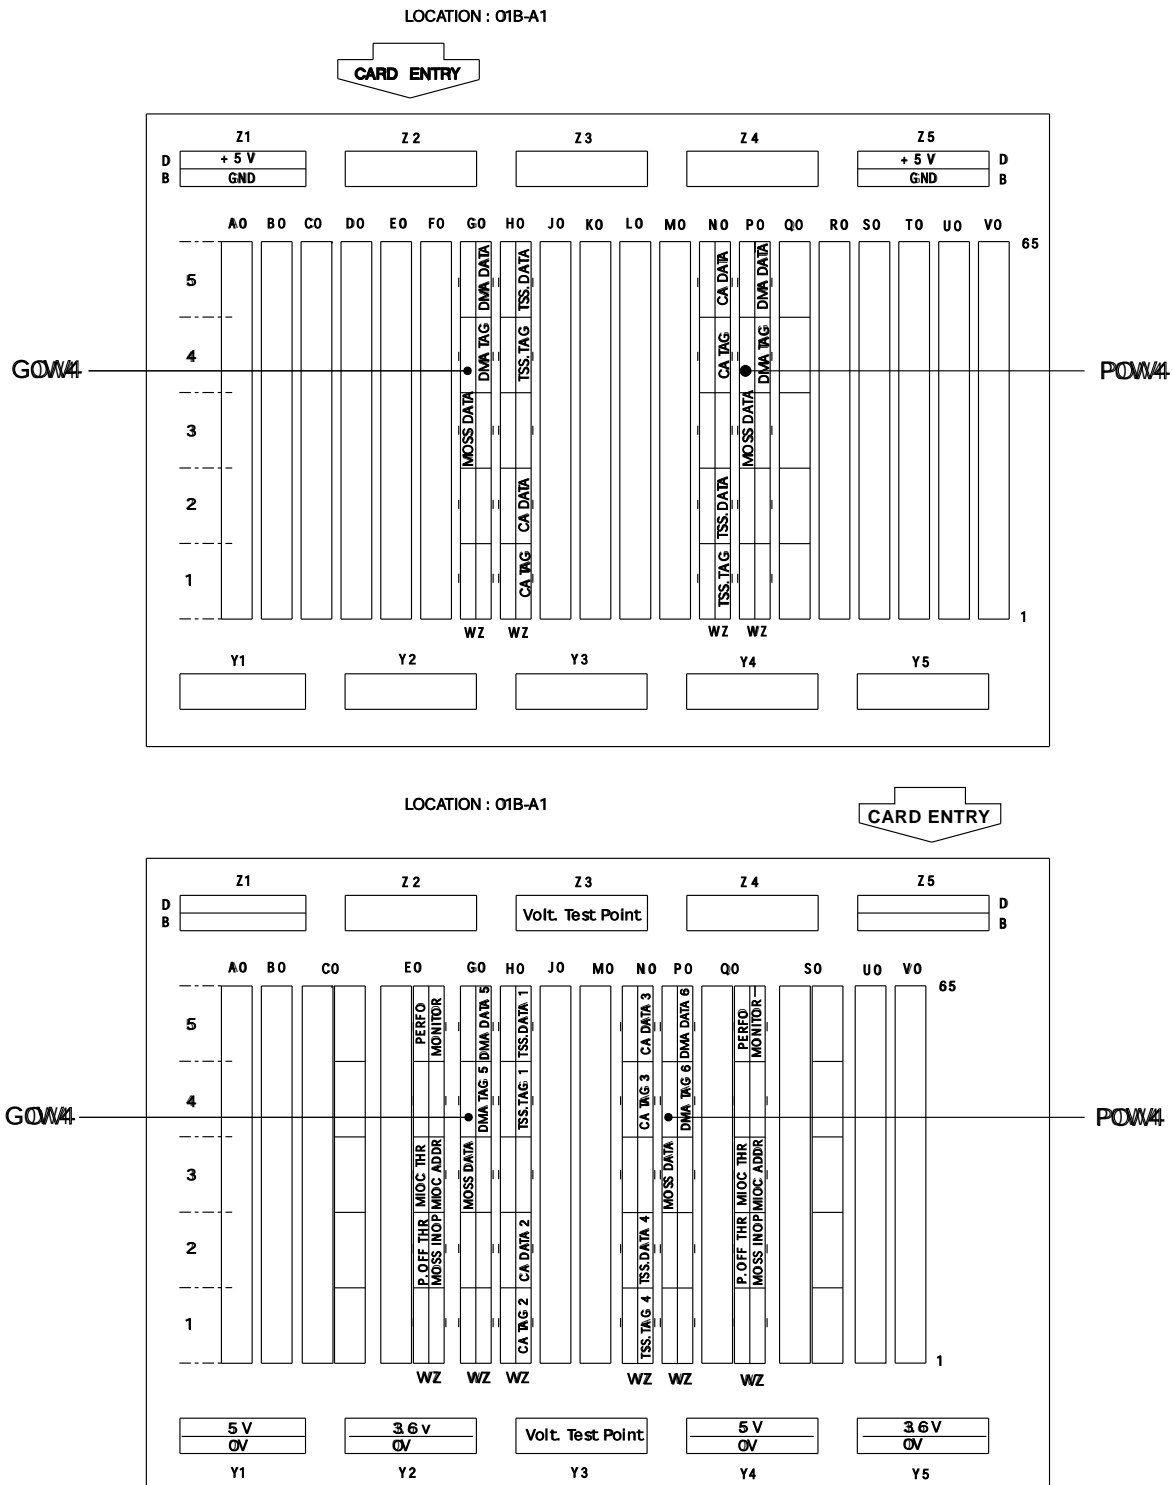

Figure 4-39. SACU Boards for 3745 Model 21A or 41A (Top) 31A or 61A (Bottom)
- Step 10. ____ Using the tool PN 71F9877 remove the dummy connectors in locations POW4 and GOW4 of the SACU board (see Figure 4-39 on page 4-39).